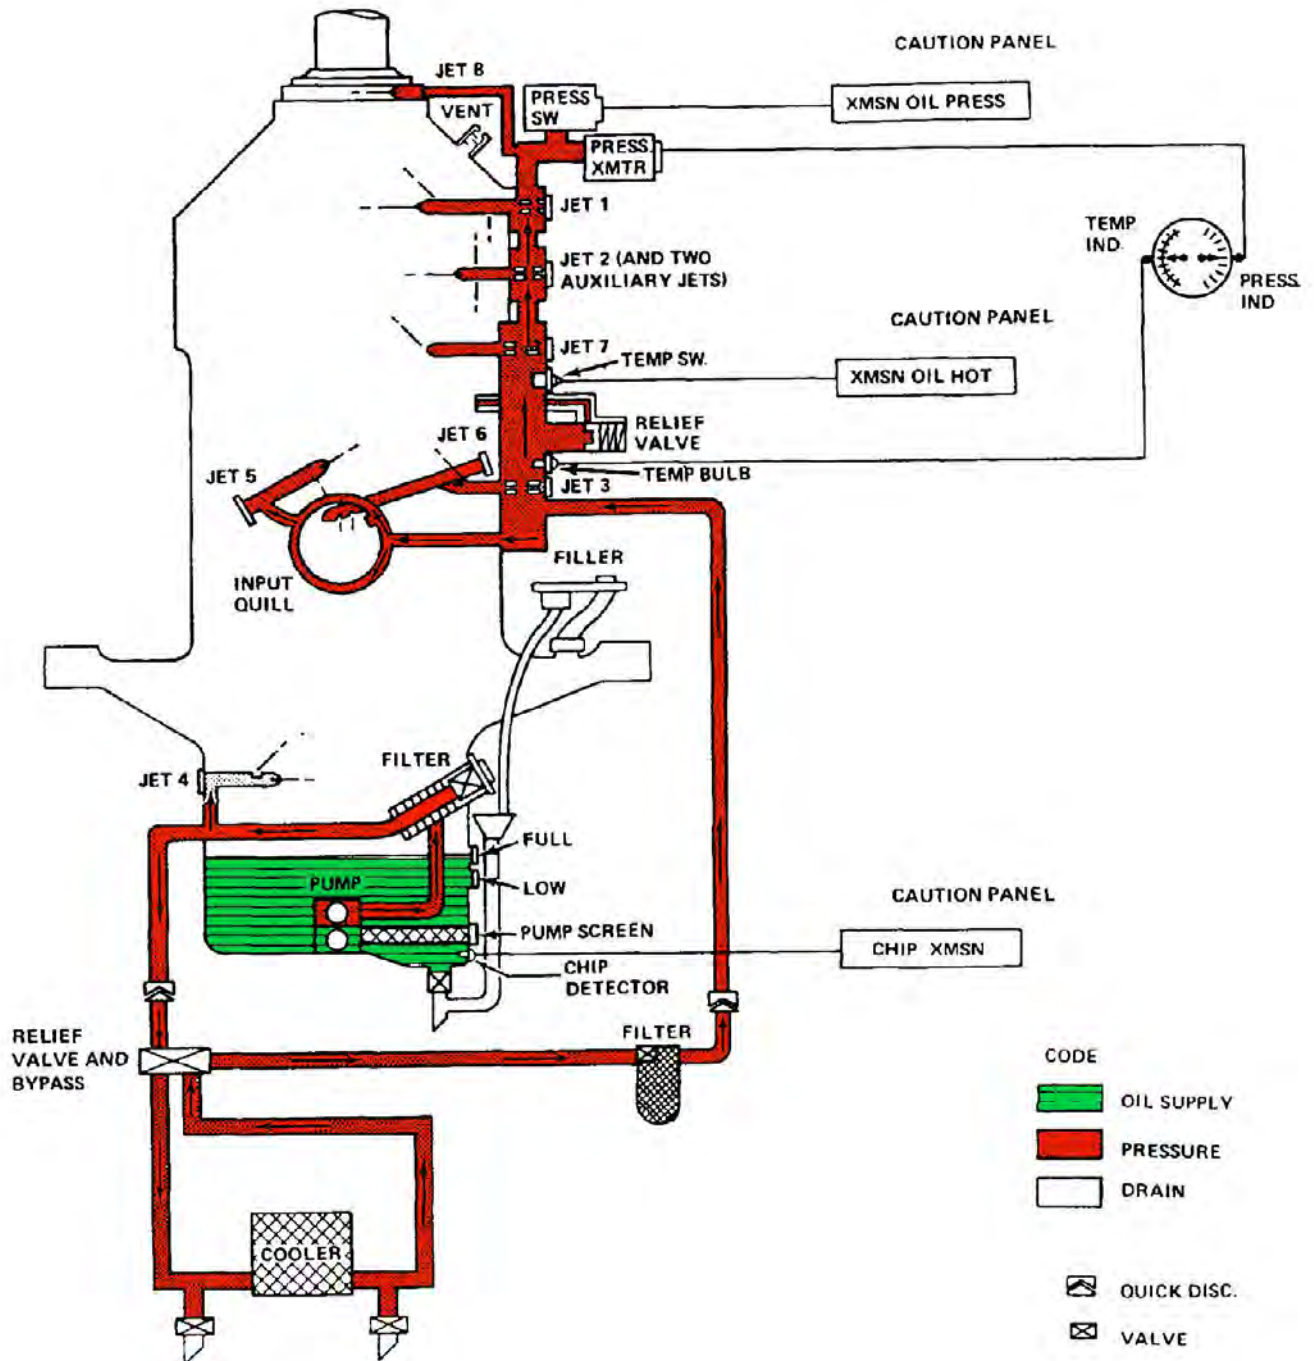
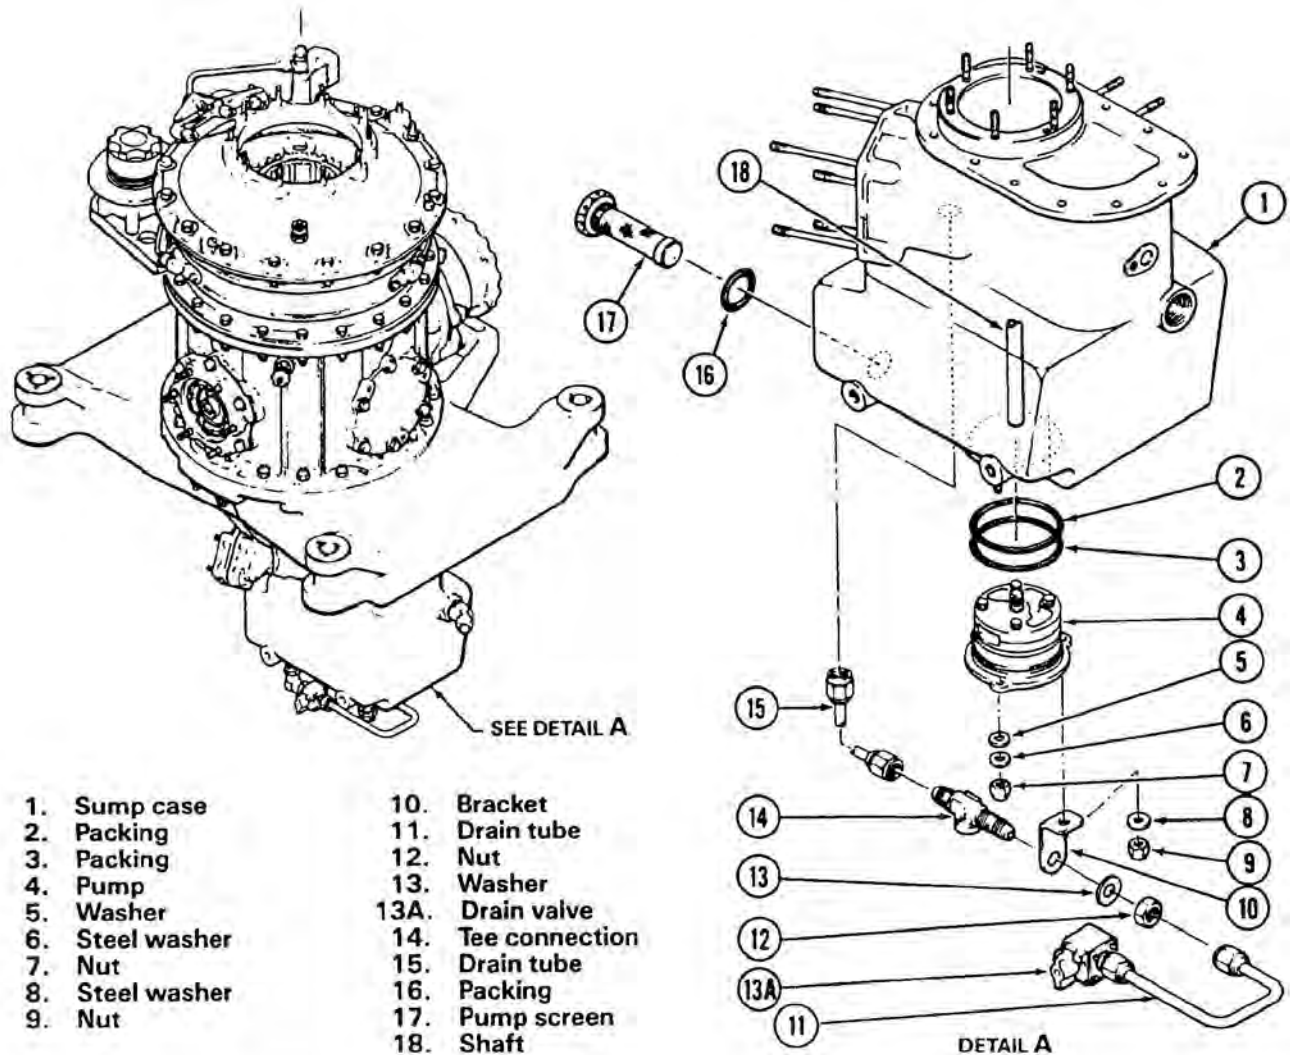

Figure 63-12. Transmission Oil System Schematic
Figure 63-15. Transmission Oil Pump
The transmission is lubricated by an oil system (Figures 63-12 to 63-15) which is independent of the engine oil system, except coolers are mounted together and use the same blower (Figure 63-15). Oil supply is contained in the transmission sump, and is circulated under pressure from the gear-driven pump through internal passages and a filter to a sump outlet. Oil from the sump outlet normally passes through external lines to the cooler at bottom aft fuselage and returns to the transmission through a second filter. During starts in cool ambient temperatures, a relief valve will open to bypass the cooler until oil warms, then will close for normal flow. From the external filter, oil enters the pressure manifold on the transmission. The manifold is equipped with a pressure regulating relief valve and distributes oil through tubes, internal passages, and jets to lubricate bearings and gears inside the transmission, where
63.5.3.1.3 Remove oil pump inlet screen (17, Figure 63-15). Remove drain tubes (11 and 15).
63.5.3.2.1 Install new packings (2 and 3, Figure 63-15) in grooves on oil pump (4).